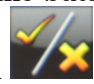

Fig. 54
Remove symbol "X" on the icon (Fig. 54 ref. 1).